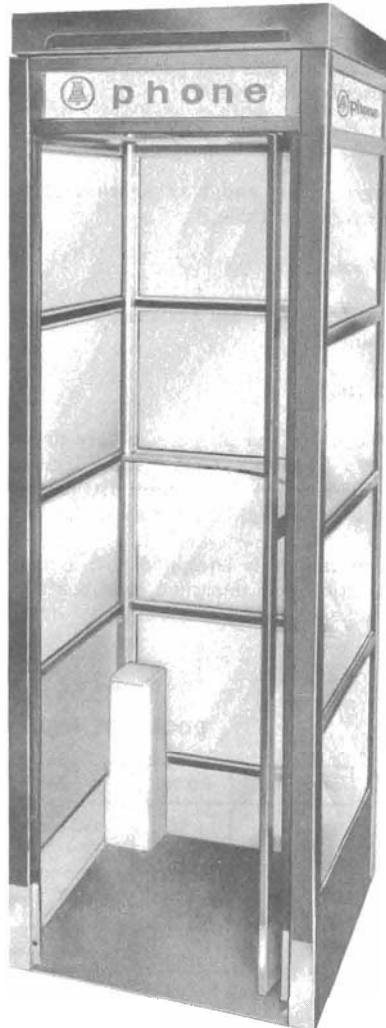

Fig. 1—KS-16797, List 1 Booth
**1.02** The KS-16797 booth (Fig. 1) is a compact aluminum and glass telephone booth suitable for indoor or outdoor use in single or multiple installations. It is equipped with an aluminum alloy floor.